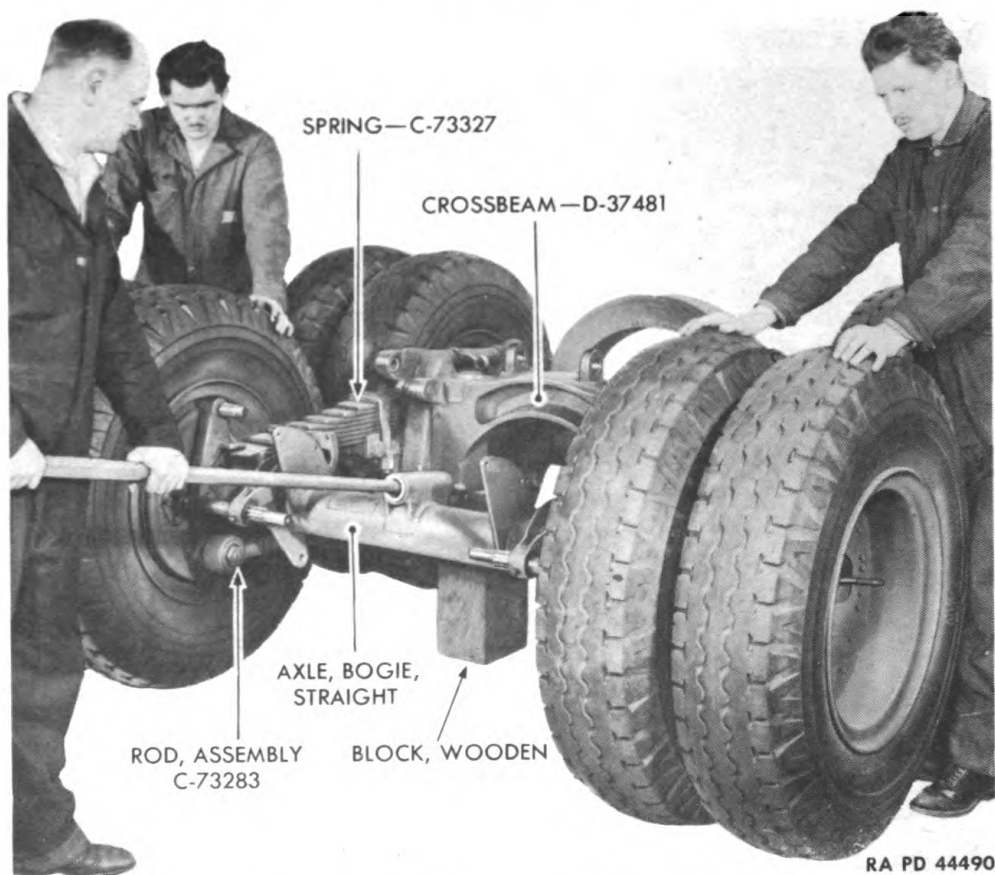

Figure 255—Removing Bogie Straight Axle
(1) Wrap the handle end of a pinch bar in cloth and insert it through pintle bushing at top center of bogie straight axle (fig. 255).
(2) Balance the bogie straight axle and roll it away from bogie